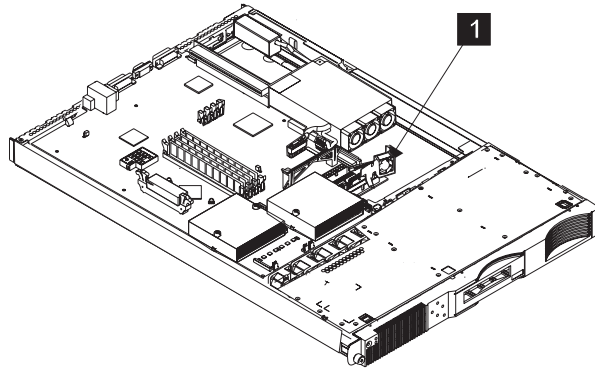

Figure 95. Removing a SAN Volume Controller 2145-4F2 disk drive fan
5. Remove the entire fan assembly **1** by sliding the right-hand side of the disk drive fan forward. Then, pull the assembly away from the clip. See Figure 95 on page 313.